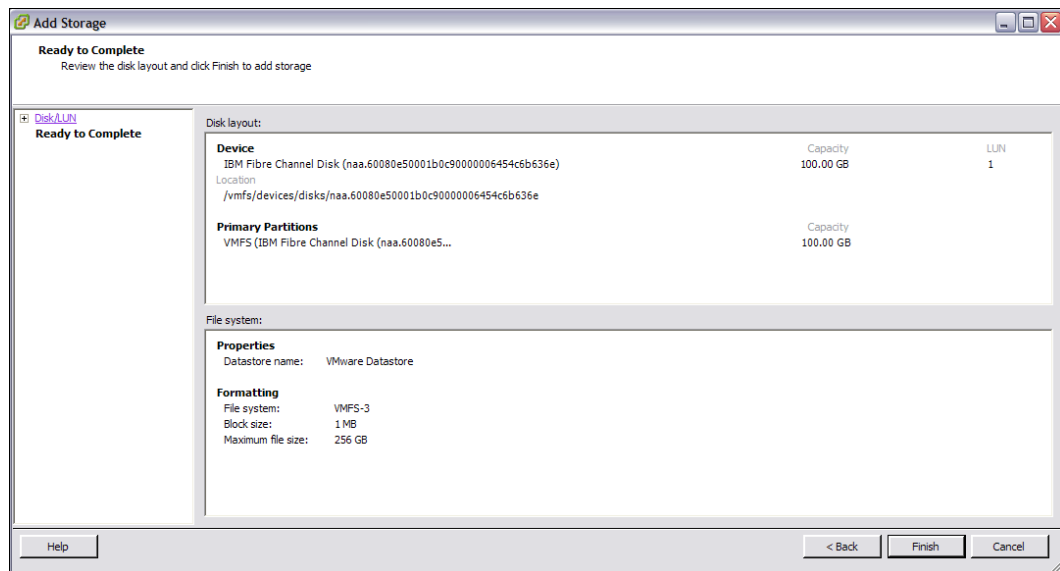

Figure 22-62 Adding Storage - Summary panel
9. Figure 22-62 is a summary panel for adding the storage. Click **Finish** to proceed.